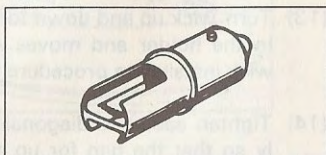

Fig. 29
- Insert the new ignitor in a manner so that the guard of the ignitor is at the lower side (Fig. 29).